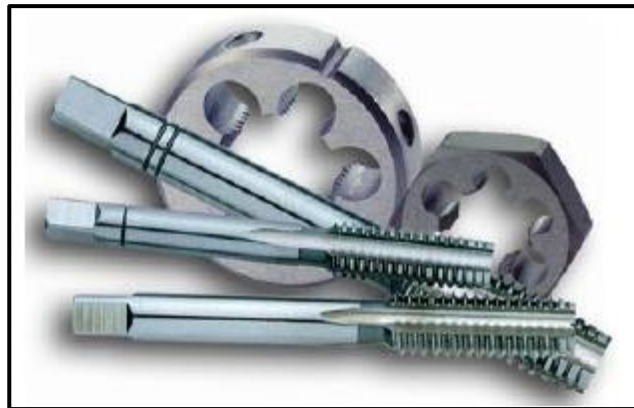

FIGURE 1.19
1.19 What is the function of the hand tools shown in FIGURE 1.19 below?